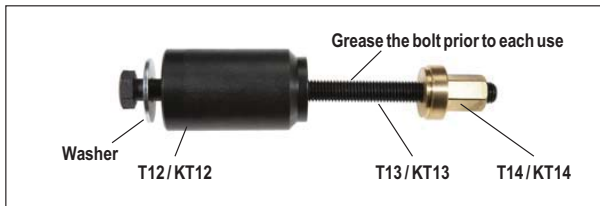

FIGURE 69 - BRASS BUSHING REMOVAL TOOL
5.6.12 Prepare to remove the brass bushing used in the long guide pin side. Assemble the long bolt (T13), washer, and sleeve (T12) as in Figures 69 and 70.